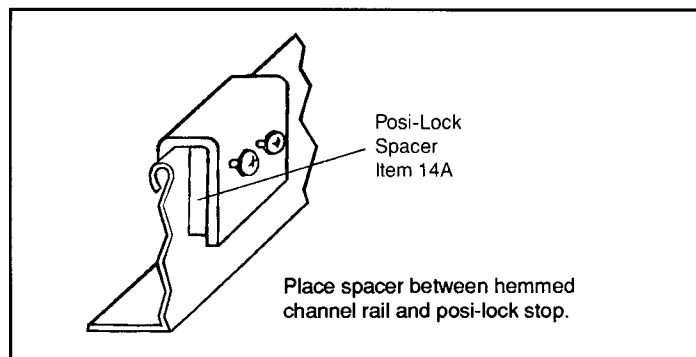

Figure 28
Step 69: After the limits have been set and all other systems are working, install the Posi-Lock STOP and the Posi-Lock SPACER (item Q). See Figure 28 The Posi-Lock mechanism is pre-assembled into the chain and trolley unit at the factory. To make it functional, however, a stop or clamp must be